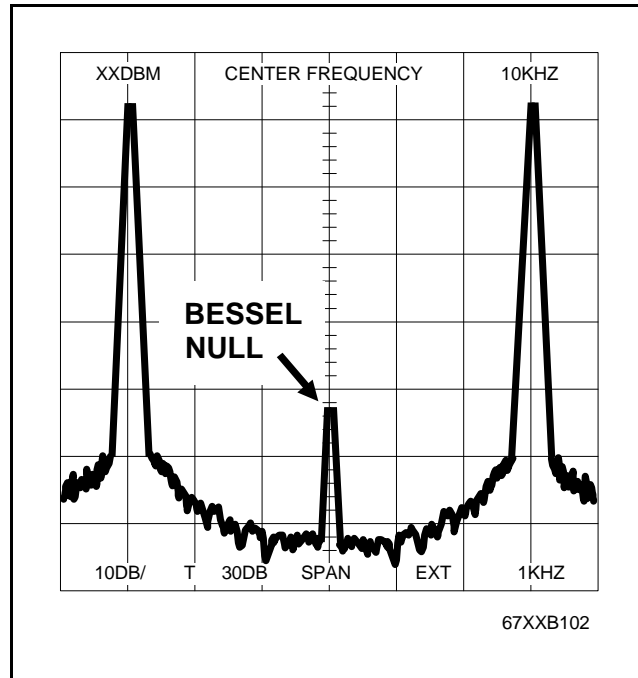

Figure 2-16. Typical Spectrum Analyzer Display of Bessel Null on FM Modulation Waveform
5. Observe the first Bessel null (Figure 2-16) at the carrier frequency (modulation index = 2.4). Measure the drop in carrier level and record it on the Test Record. The carrier level must have decreased by ≥ 26 dB to meet specification.